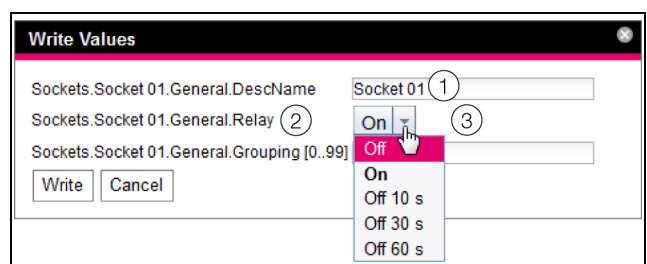

Fig. 26: Performing switch commands
DescName	Individual description that was assigned to the output or socket (fig. 26, item 1).
Command	The command to be performed. The following commands are supported: "Off", "On", "Off 10 s", "Off 30 s", "Off 60 s" (fig. 26, item 3).
Device	The device index (ID number) that is prefixed to the associated Real Device in the navigation area of the PDU website (fig. 26, item 2).